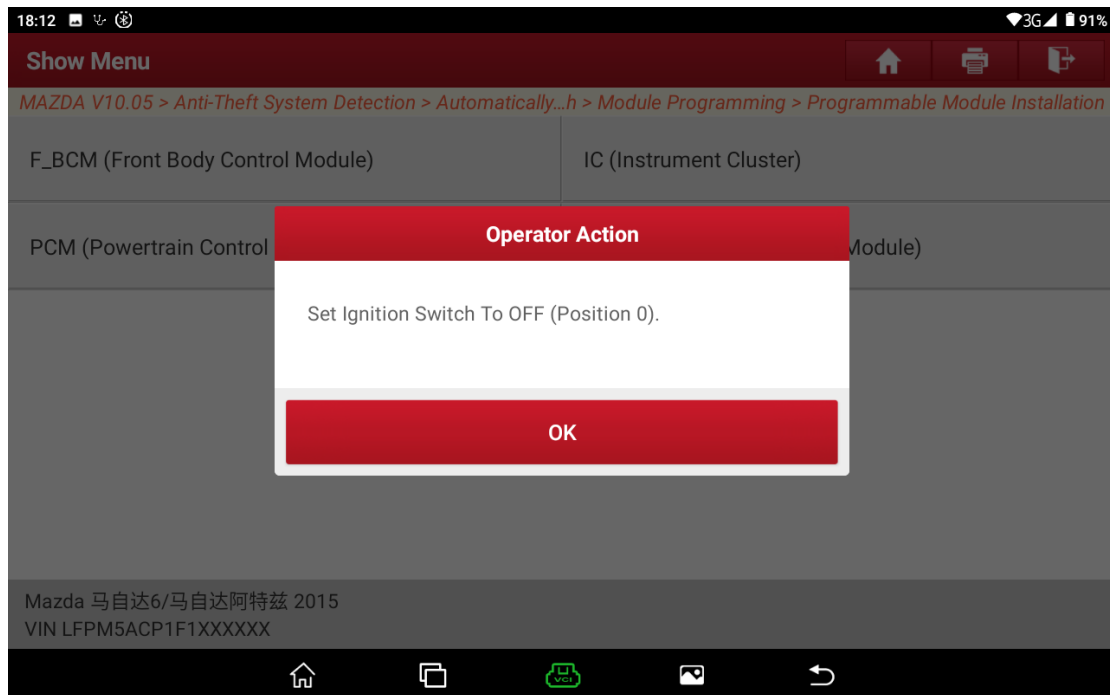
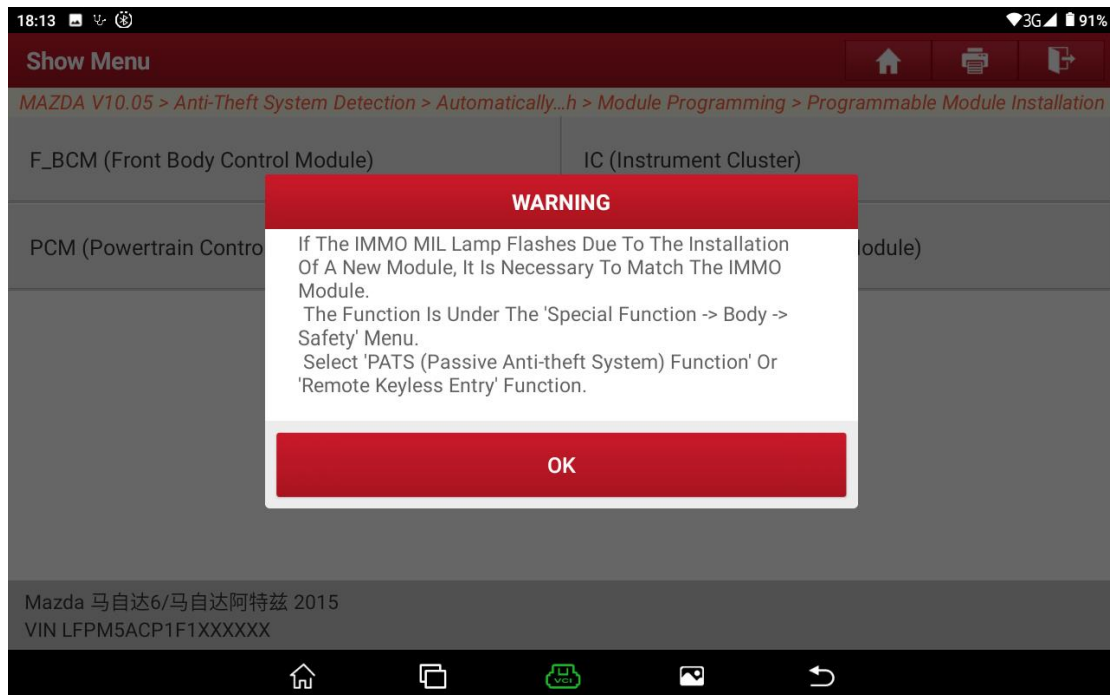

Figure B20
Figure B21
17. Turn off the ignition switch. Then, a warning prompt is displayed. Click OK to exit the function and return to the main menu. See Figure B20 and Figure B21.